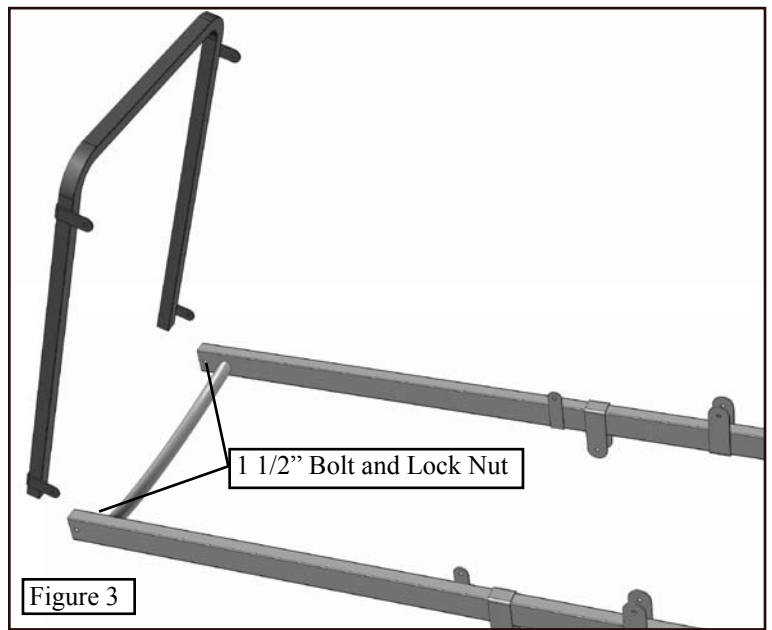

Figure 3
Step 1. Orient the Arm Rest and the Top Support Assembly as shown in **Figure 3**. Note that the bent back rest faces away from the Arm Rest Bar.